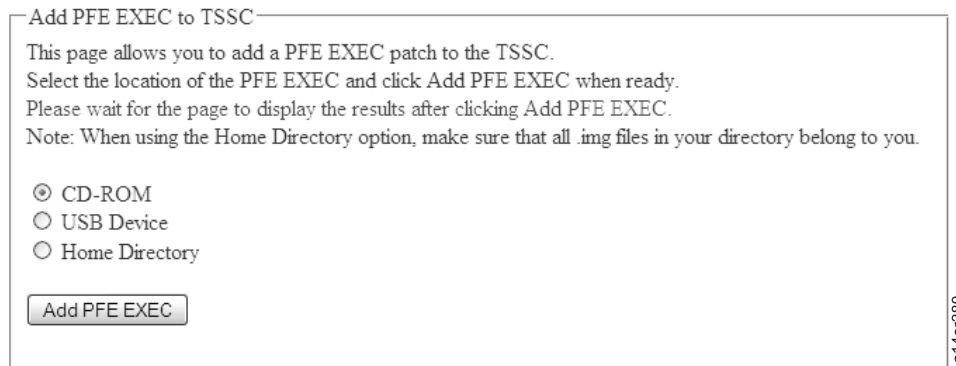

Figure 3-103. Adding PFE Exec from Web Interface
4. Select the option at the top for TSSC Exec. You see Figure 3-103 on page 3-81
11. The process proceeds, then the page reloads. A message appears above the text depicted in Figure 3-103 on page 3-81, noting the success or providing an error message.